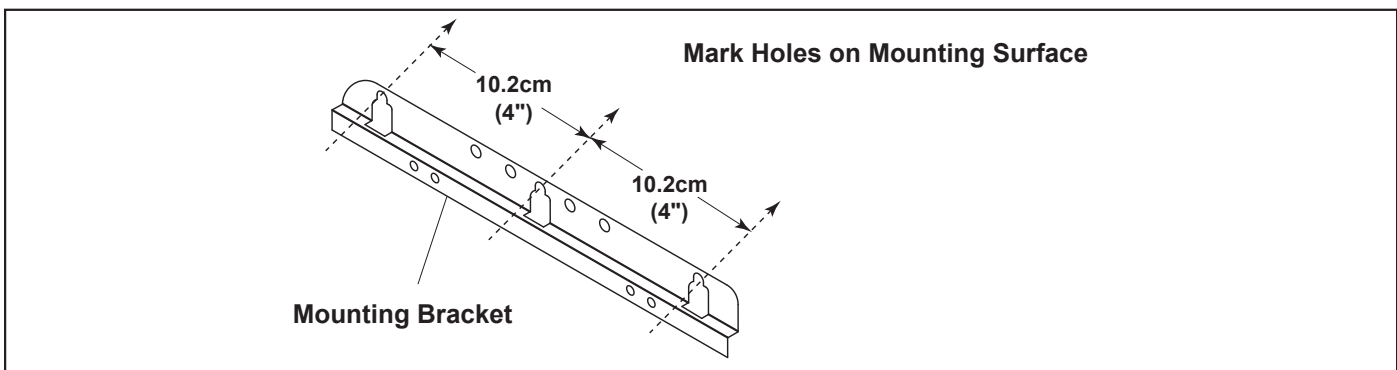

Figure 7. Mark Holes using Control Centre Mounting Bracket
3. Using the top mounting bracket as a guide, mark three (3) holes on the mounting surface where the power centre will ultimately reside (see Figure 7). Drill the holes in the mounting surface.